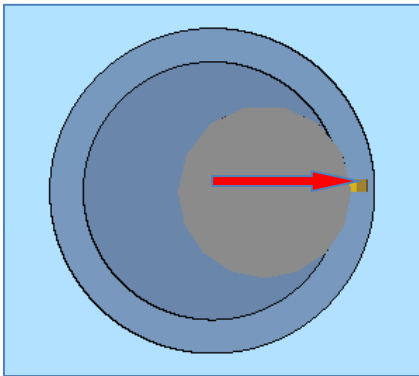

Fig. 6-1
- block N340, the mill is placed upon the wall of the hole activating the tool radius compensation (**Fig.6-1**),